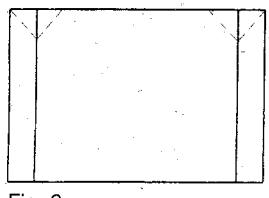

Fig. 6
- d) Adjust the UPPER CORNER CORRECTION to obtain condition as in (fig. 6).